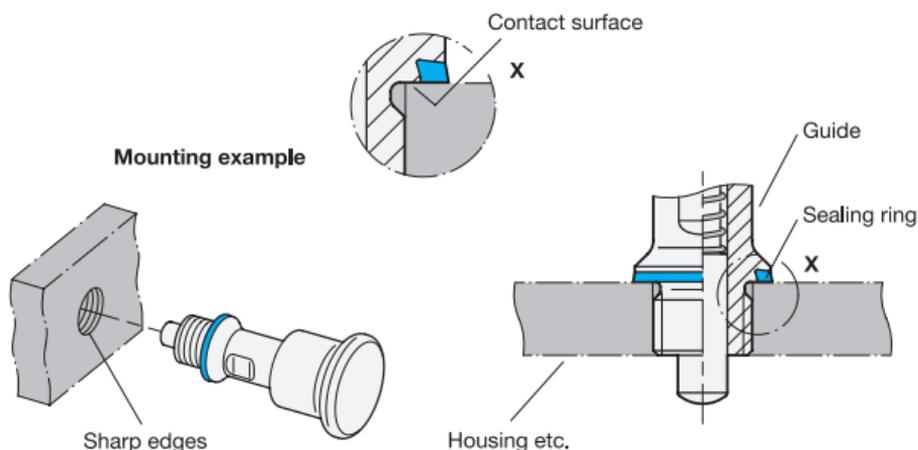

Fig. 2
- The mounting hole must be made such that the metal recess within the sealing ring rests as fully as possible against the underlying surface to enable tensioning against the block (metallic stop) (tolerance of  $+0.05/+0.2$ ). The sealing ring must rest fully against the underlying surface (Fig. 2).